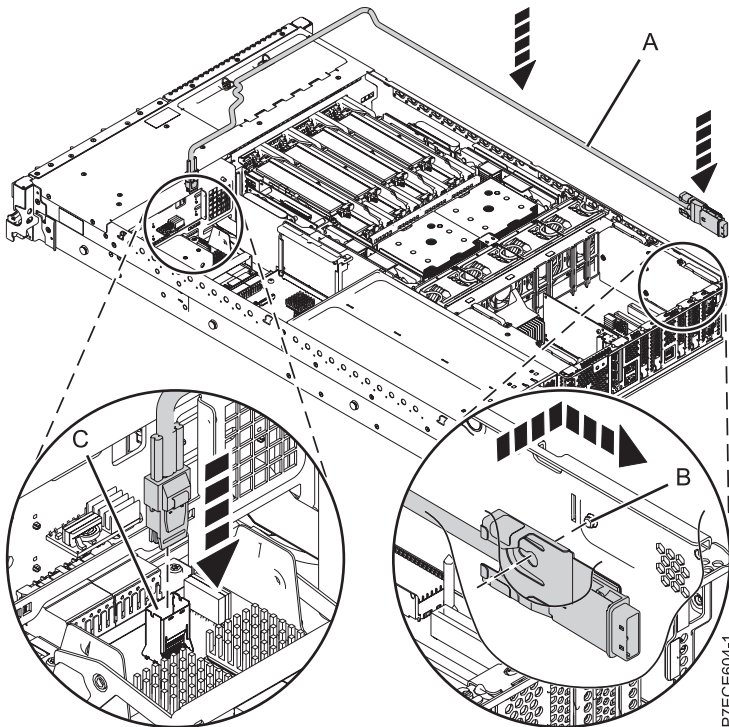

Figure 38. Installing the SAS cable
10. Connect the mini-SAS connector of the SAS cable to the internal SAS connection port (C) on the storage interposer until it snaps in place. See Figure 38.
11. Route the cable (A) in front of the memory riser cage and along the channel in the side wall until the SAS port connector is near the opening on the rear of the chassis.
12. Align and guide the slot in the bracket of the SAS port connector (B) over the guide pin in the chassis. Then slide the SAS port connector into the opening on the rear of the chassis until the tab on the bracket snaps in place.